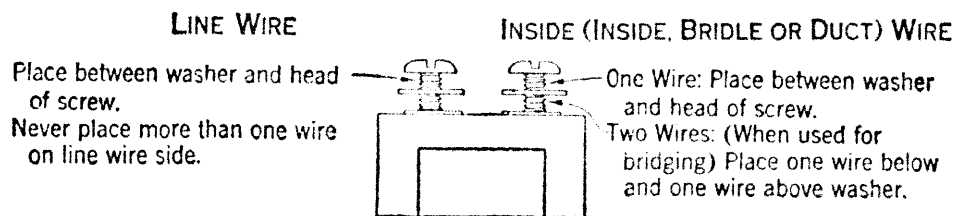

Fig. 1.
2.01 In terminating wire at two or three-post connecting blocks, arrange connections as indicated by Fig. 1.